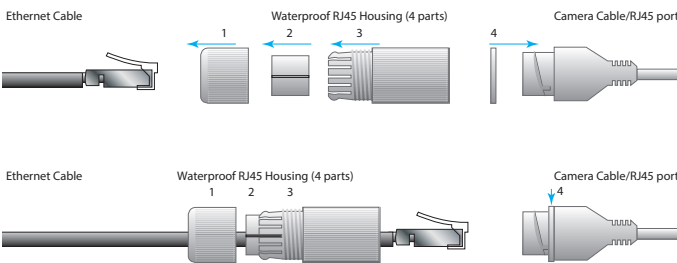

Fig. 2.4
7. Install the four-piece waterproof housing kit that came with the camera. Three pieces (1, 2, and 3) are installed over the Ethernet cable, while the fourth piece, the thin washer (4), is inserted over the RJ45 port of the camera cable, see Fig. 2.4.